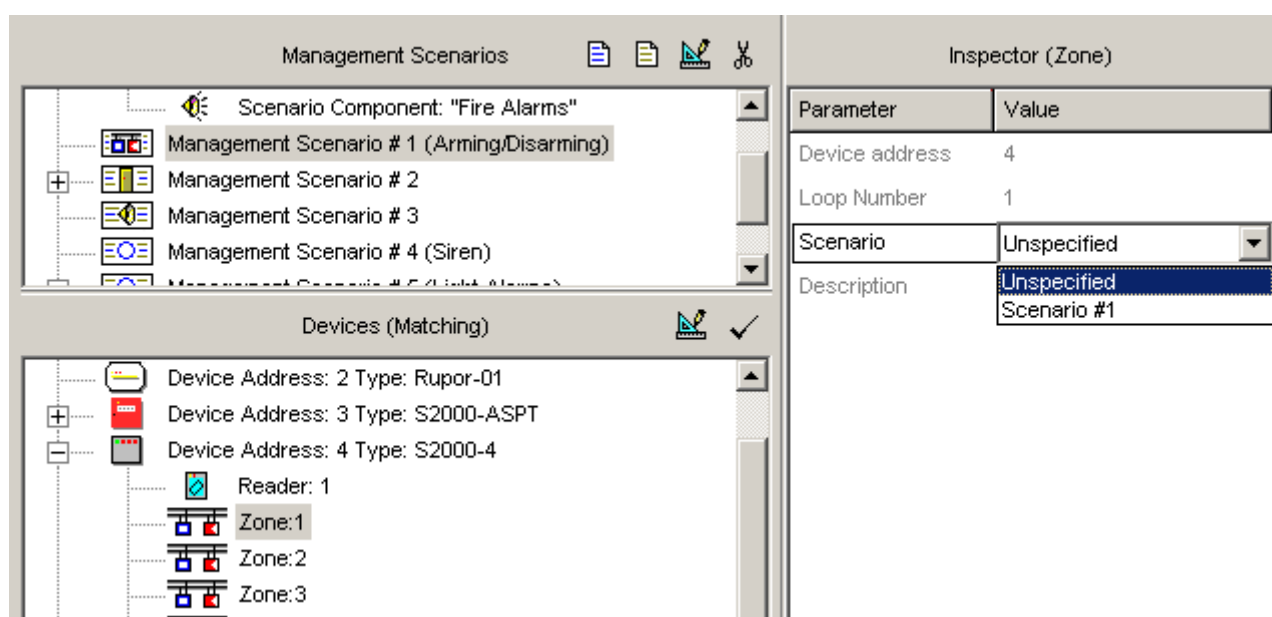

Figure 56
- ✓ *Assign the programmed scenario to the managed zone (zones) the console will give commands to as defined by the scenario. To do this, select the scenario in the upper window and the zone (zones) to be managed in the lower window, and then click the Add button  or select the proper value in the dropdown list in the Scenario field of the Inspector (see Figure 56).*